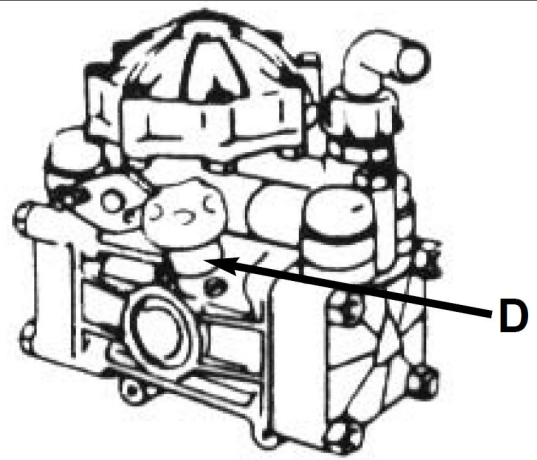

Fig. 2
2. Check oil level in pump daily. Be sure oil is halfway up to the clear oil sight tube (D). If it is not, fill to the correct level using a high-grade, non-detergent, SAE 30 weight oil. This will help prolong the pump life. (refer to Fig. 2)